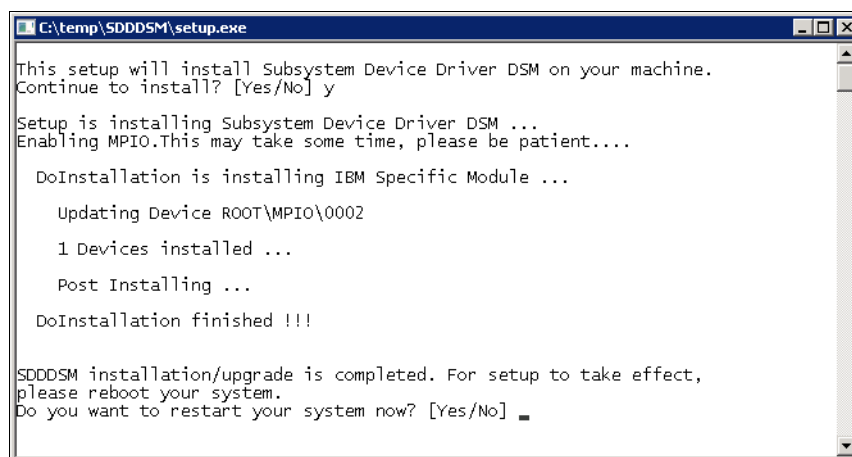

Figure 4-3 Answer yes to restart the host
3. After the setup completes, you are prompted to restart the system. Confirm this restart by typing yes and pressing Enter (Figure 4-3).